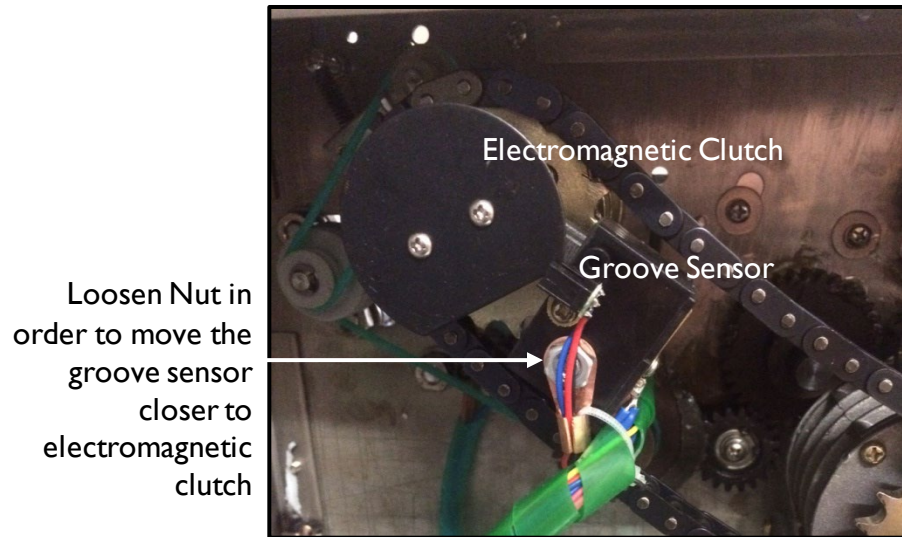

Figure 36. Incorrect position of groove sensor and electromagnetic clutch
2. Loosen the nut as shown in Figure 36. This will allow the carbon brush holder and groove sensor some movement.